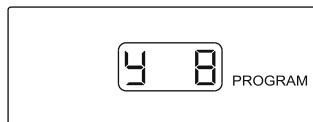
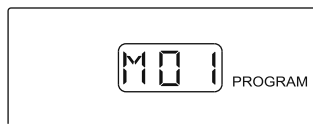

Figure 2-11
Figure 2-12
1. The first thing that you will adjust is the Year (Y). Pressing the **SET** button for 3 seconds will cause the center digit after the Y to flash (see **Figure 2-11**). This should remain a 0 until the year 2010, and then it will be changed to a 1. Pressing the up and down arrow buttons will adjust the value of this digit. When you have selected the number that you want, press the right button to adjust the right digit in the same manner with the up and down arrow buttons. When you have the proper number displayed for the year (Y) press and hold the **SET** button for 3 seconds until the monitor beeps twice and the display flashes twice. (The monitor will now display like **Figure 2-12**.)